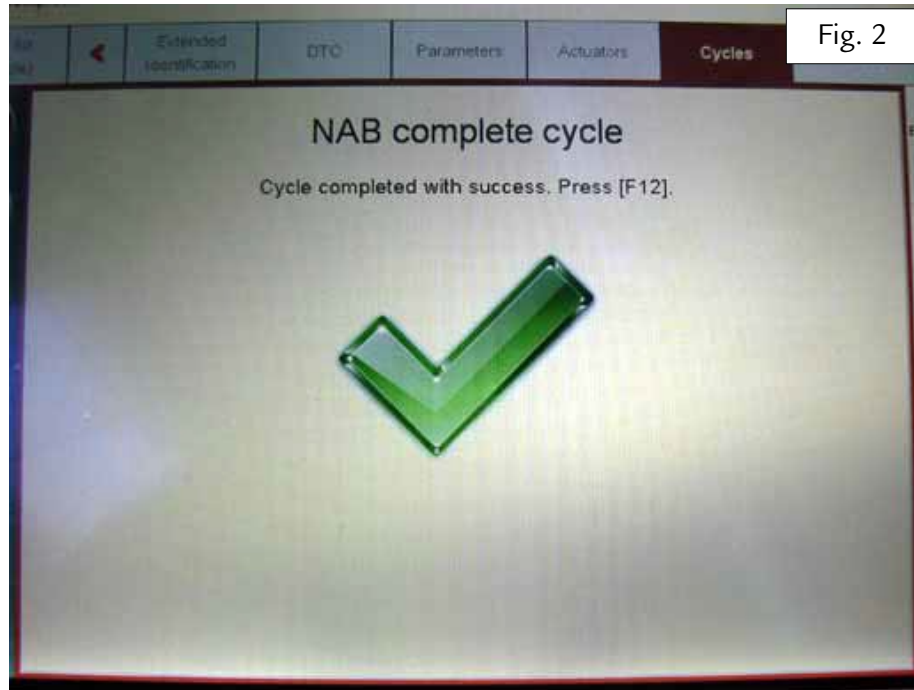

Fig. 2
- 1.8 Ensure that the cycle is completed successfully – Fig. 2.